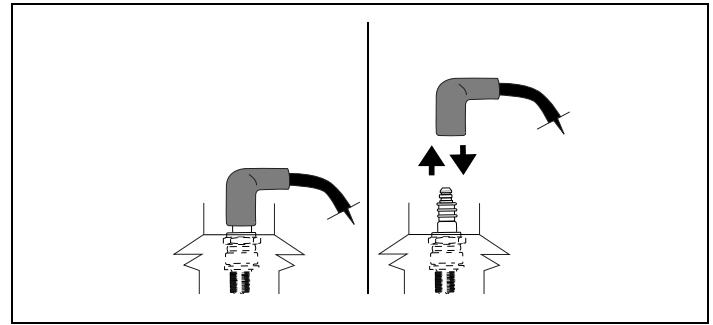

Figure 28. Disconnecting/Connecting Spark Plug
- Carefully disconnect spark plug wire and keep it away from spark plug. See Figure 28. See "G. Avoid Accidental Starts" instructions on page 2. Afterward, continue reading instructions below.